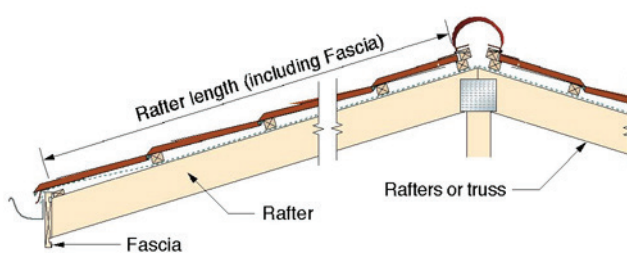

Fig 5.1.1
- (a) Determine the rafter length (Fig 5.1.1) and calculate the number of courses of tiles from Table 5.1. Always ensure that fractional tiles are counted as whole tiles as these will have to be cut at the ridge board.